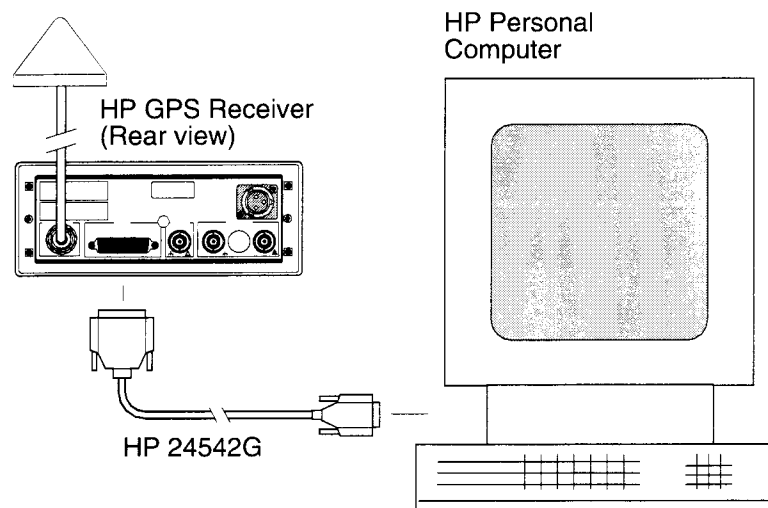

Figure 1-3. Connecting a PC or Terminal to the HP GPS Receiver
- 1 For the procedures in this chapter, connect the computer to the rear-panel RS232C (**PORT 1**) port using an HP 24542G interface cable (or equivalent 25-pin male to 9-pin female RS-232 null-modem cable) as shown in Figure 1-3.